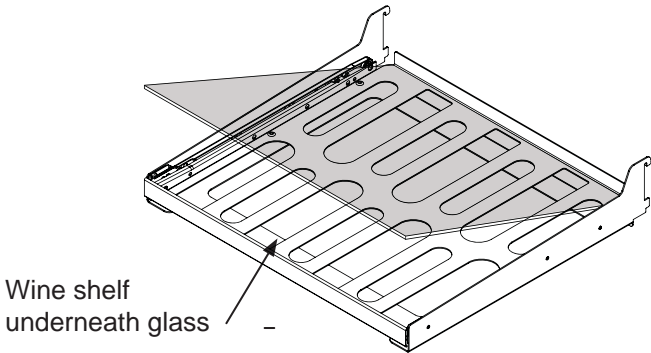

Figure 15
- (2) wine cutout and flat glass cantilever shelf. (See Figure 15).
- (1) wine cutout and flat glass cantilever shelf. (See Figure 15).